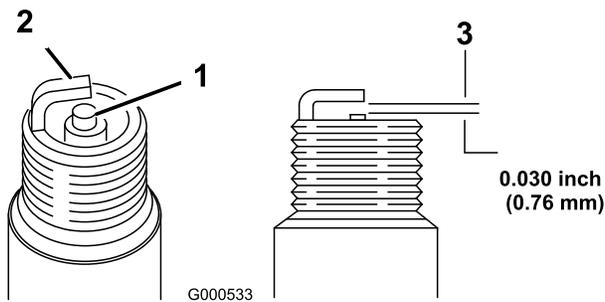

Figure 18
5. Set the gap on the plug to 0.76 mm (0.030 inch) (Figure 18).